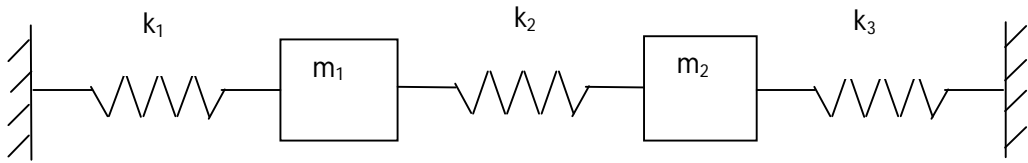

Figure 2
- b) A single-degree-of-freedom viscously damped system is composed of a mass of 10 kg, a spring having a spring constant of 2000 N/m, and a dashpot having a damping constant of 50 N-s/m. The mass of the system is acted on by a harmonic force $F = F_0 \sin \omega t$ having a maximum value of 250 N and a frequency of 5 Hz. Determine the complete solution for the motion of the mass. (10)**
- b)** For the 2-degree of freedom vibratory system shown in Figure 2, with $m_1 = m$, $m_2 = 2m$, $k_1 = k_2 = k$, $k_3 = 2k$, evaluate the equations of motion, the natural frequencies and mode shapes. The vibration displacements are along the spring-mass orientation. x_1 is the displacement of mass m_1 and x_2 the displacement of mass m_2 . **(10)**